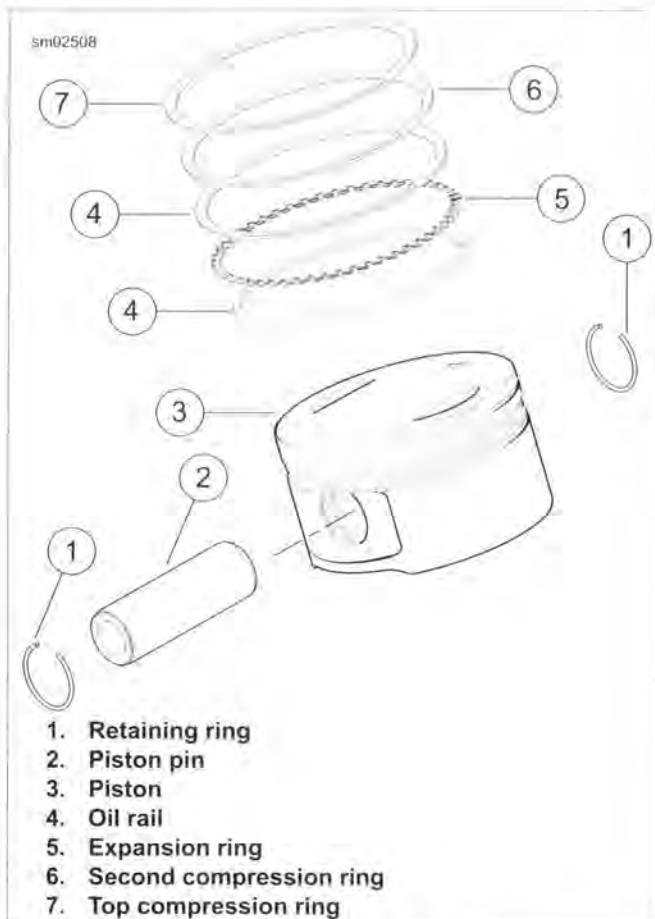

Figure 3-53. Piston Assembly
1. See Figure 3-53. Carefully remove top (7) and second (6) compression rings using PISTON RING EXPANDER (Part No. Snap-on PRS8).
2. Remove top and bottom oil rails (4) with fingers. Remove the oil rail expansion ring (5).